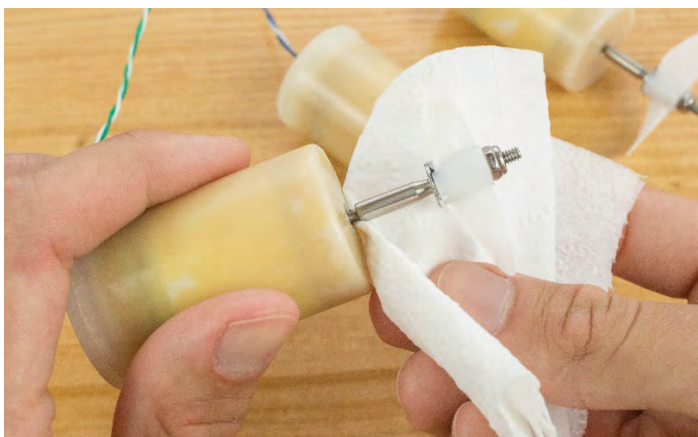

Figure 38
- Using a paper towel, wipe away any excess glue between the shaft coupler and the motor shaft. (Figure 38)